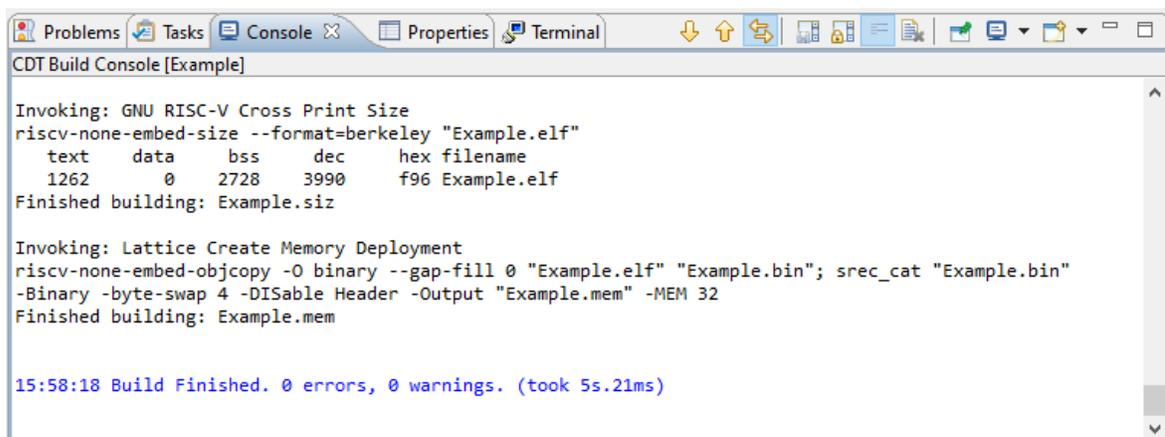

Figure 3.23. Build Result of C/C++ Project
4. The results of the build command are displayed in the **Console** view (Figure 3.23).